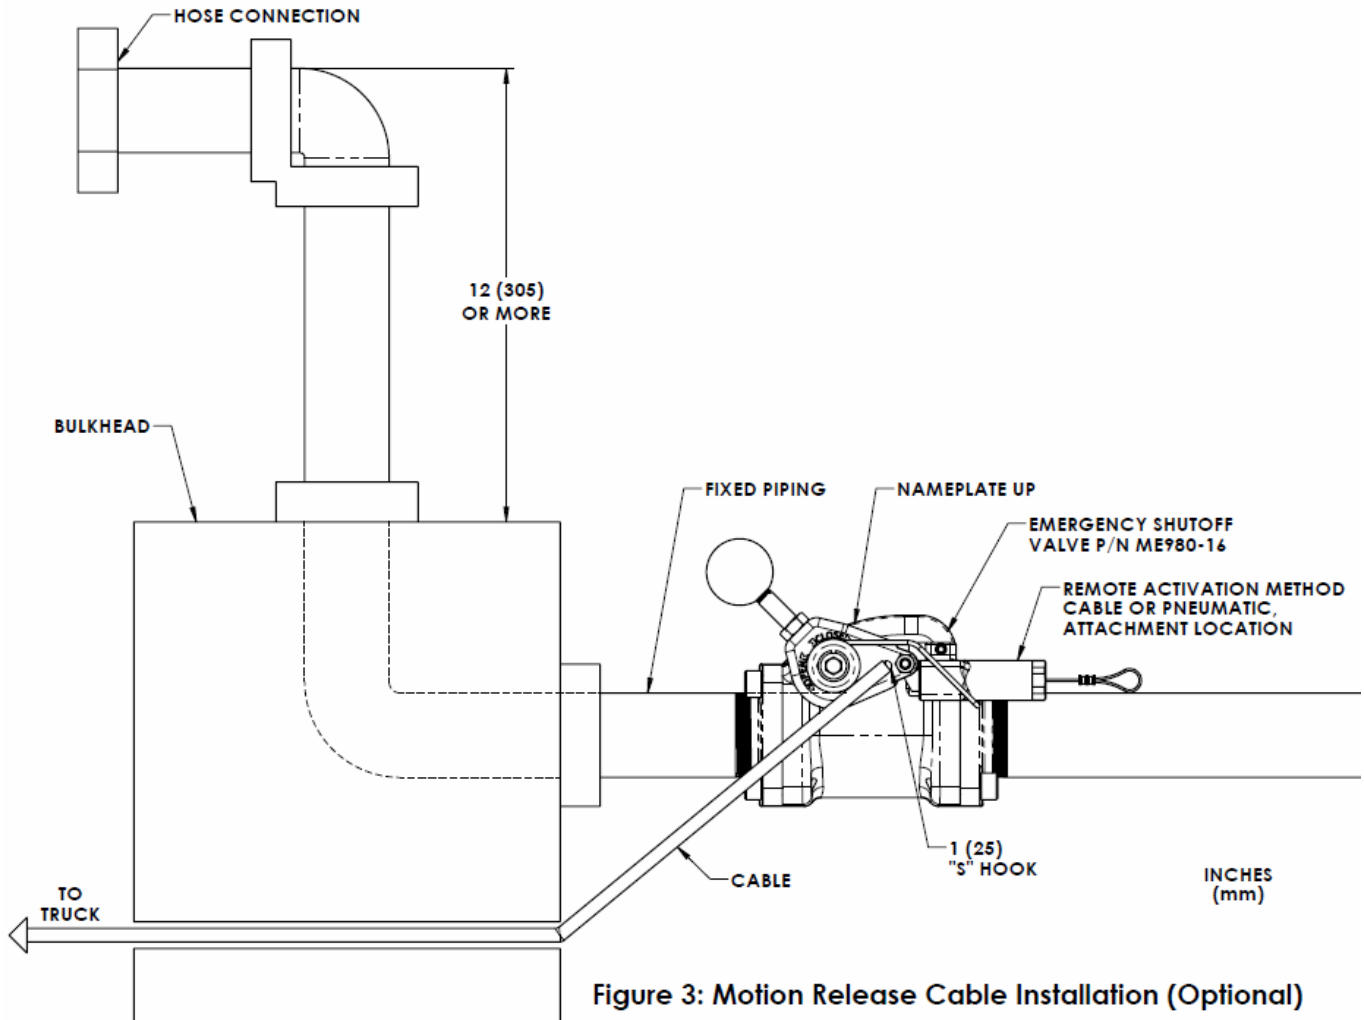

Figure 3: Motion Release Cable Installation (Optional)
1. Connect a suitable release cable such as stainless-steel aircraft cable to a standard "S" hook. Attach the "S" hook to the ME980 handle as shown in Figure 3.
2. The cable should run through the bulkhead just below and to the side of the pipe. The cable should be in line with the operating lever, refer to Figure 3.